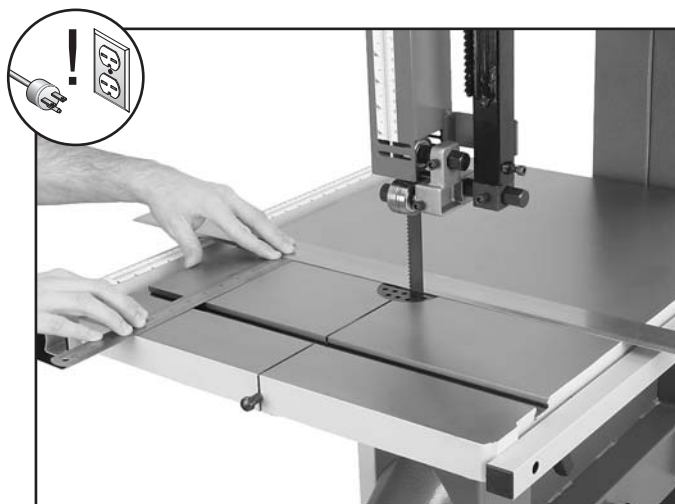

Figure 57. Measuring for miter slot to be parallel with blade.
5. Use a fine ruler to gauge the distance between the straightedge and the miter slot. The distance you measure should be the same at both the front and the back of the table (see **Figure 57**).